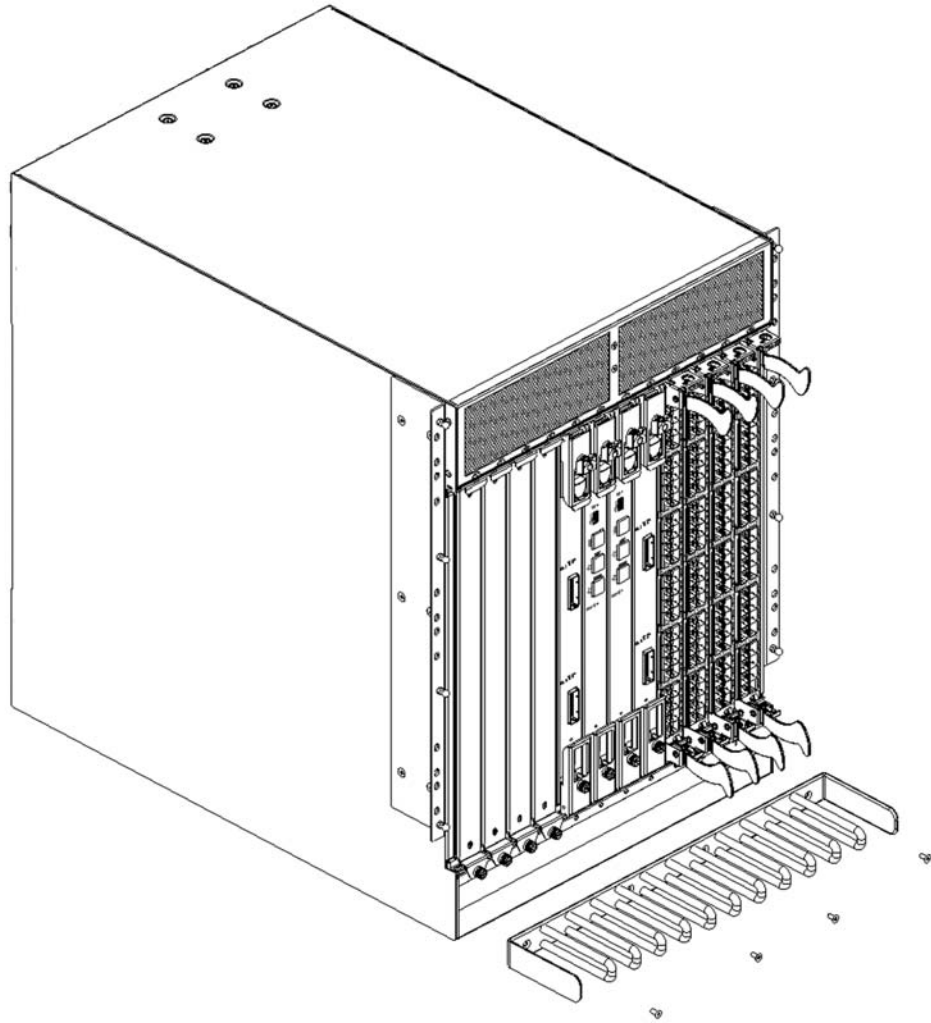

Figure 22. Cable management comb
2. Unscrew and save the four screws holding the comb to the chassis (see Figure 22 on page 53). Support the comb to prevent it from falling.